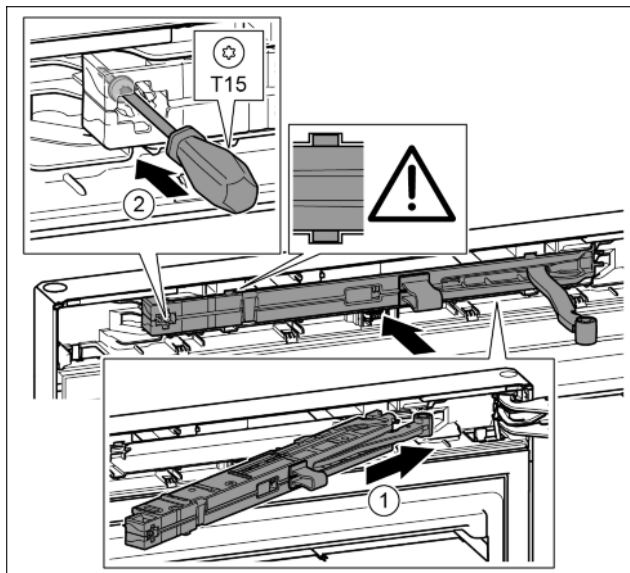

Fig. 24
- ▶ Slide the soft stop mechanism on the bearing bracket side at an angle into the slot as far as the limit stop. Fig. 24 (1)
- ▶ Tighten the screw with the T15 screwdriver. Fig. 24 (2)